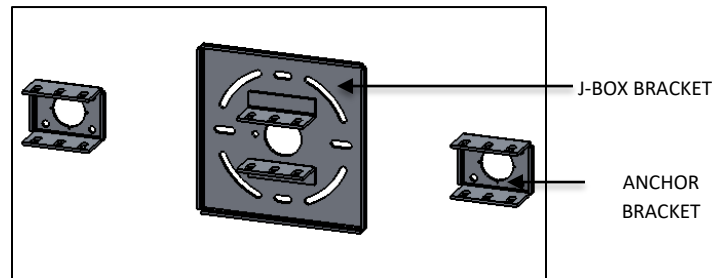

FIG.4 - ANCHOR BRACKET AND J-BOX BRACKETS
3. ANCHOR AND J-BOX BRACKETS (as shown in FIG. 4)